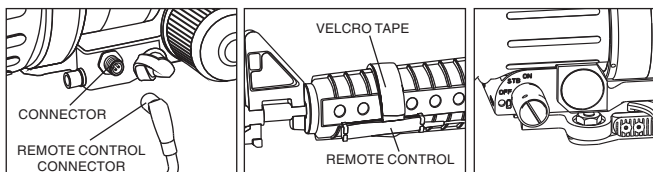

FIGURE 2-12. REMOTE CONTROL
1. Remove the rubber cap from the connector. The rubber cap can be placed onto the screw head, that attached the strap of cap to the body of device (see Figure 2-12).